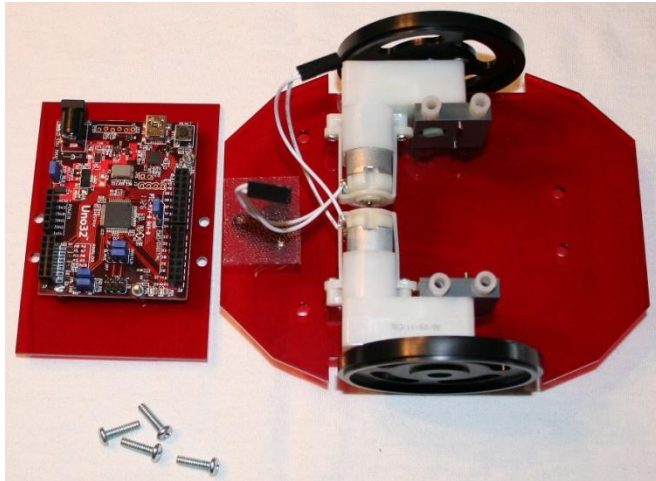

FIG 28. Prepare to Install UNO32™ Board & Plastic Deck onto Robot.
Refer to figure 28 below for how to prepare to install UNO32™ board & plastic deck onto robot. Place the (4) white plastic standoffs on top of the motor mounts. You can insert the (4) 6-32x1/2" screws into the plastic deck and then lower it onto the white standoffs in step#27.